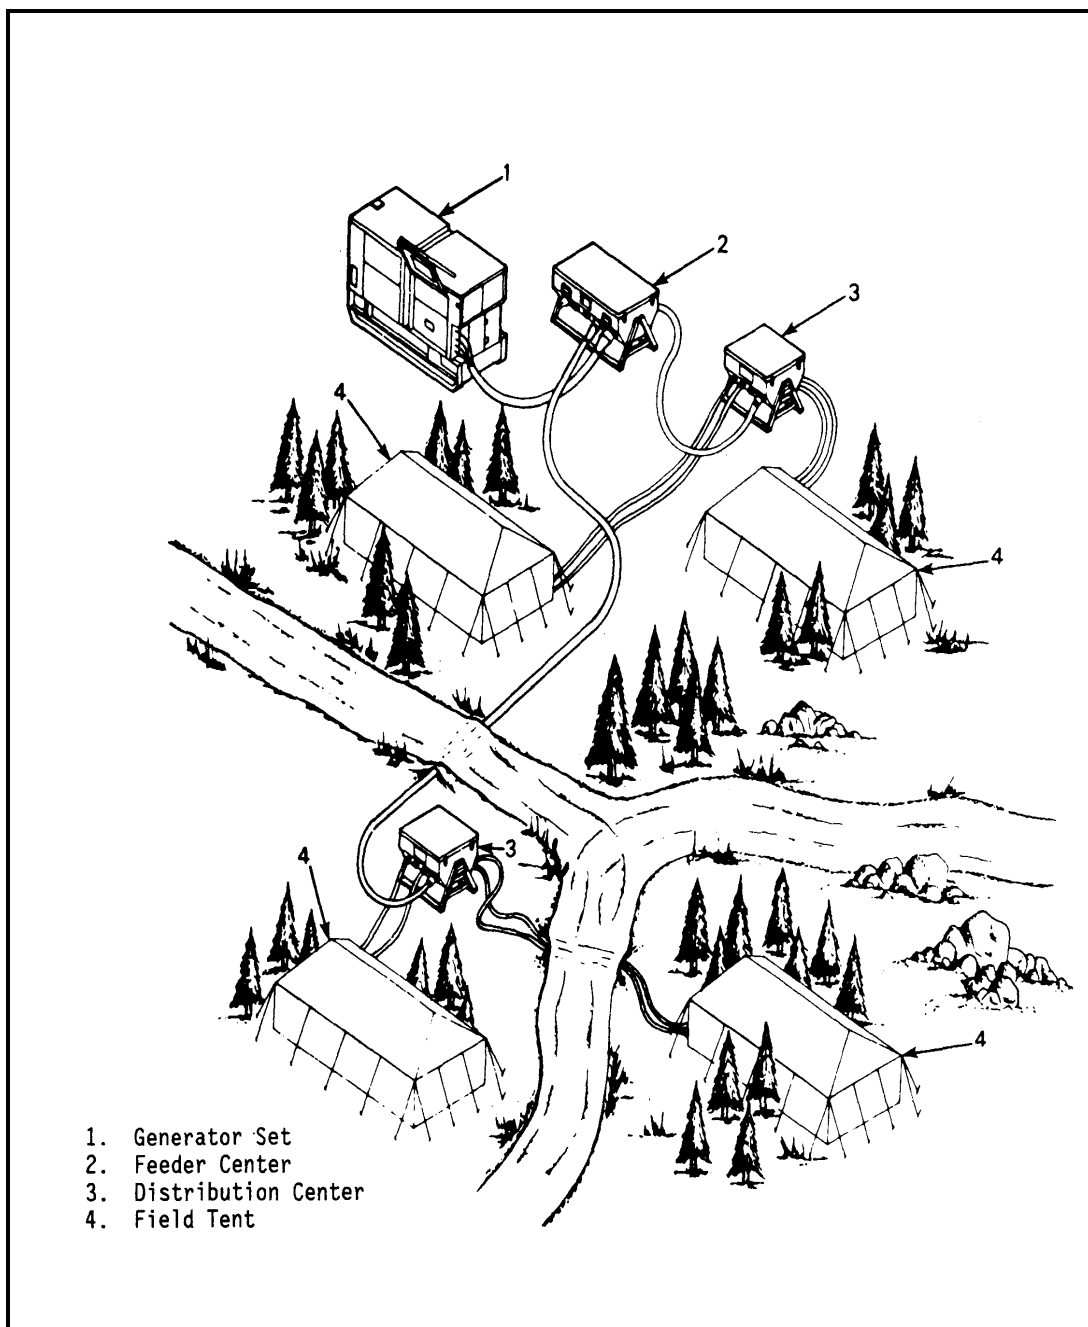
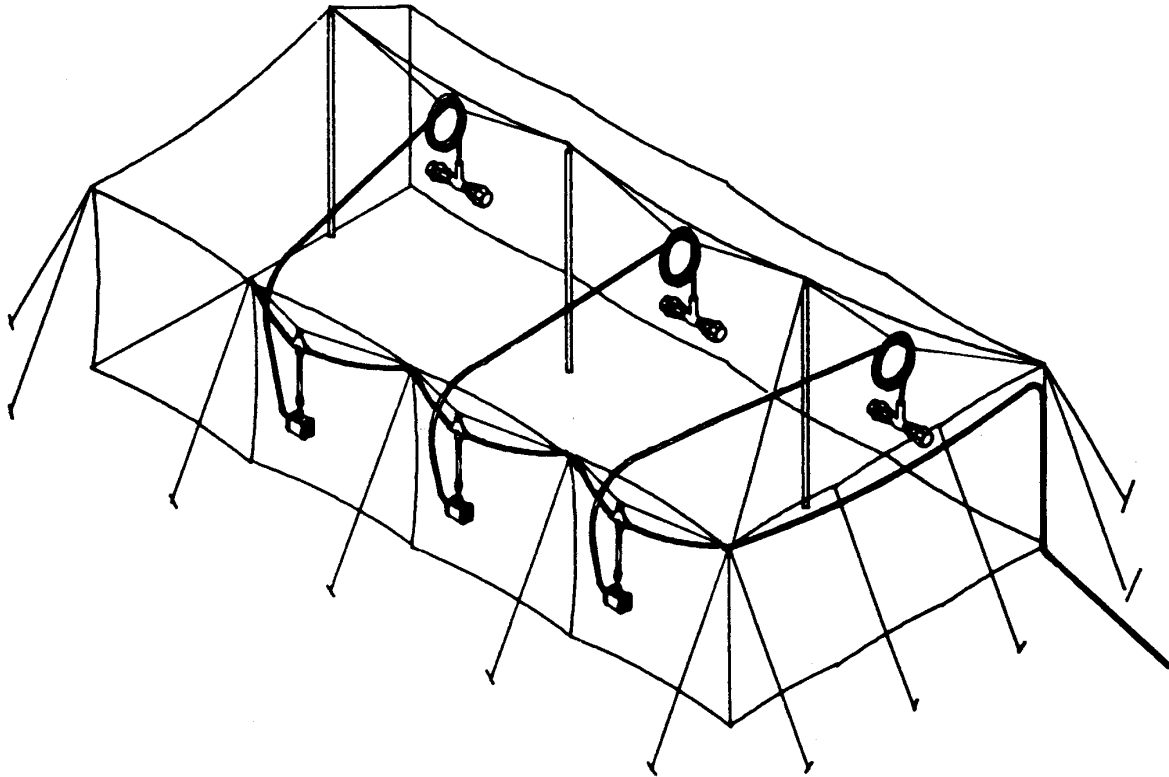

Figure 1. Typical Field Placement
Figure 2. DISE and PDISE Branch Cable and Light Assemblies.
- DISE/PDISE consists of items illustrated and listed in Figures 2 through 7. It is used to form a consolidated power network by adding components to meet specific organizational missions and requirements.
Typical System Placement. The quantity, location, and placement of DISE and PDISE equipment is dependent upon field conditions and user needs. Figure 1 is a typical field placement of a 3-phase power distribution system. Figure 2 shows details of DISE and PDISE equipment inside the user's tent.
System Components. The components of the five basic systems for DISE and PDISE are illustrated in Figures 2 thru 7.